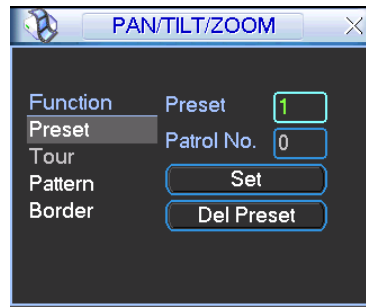
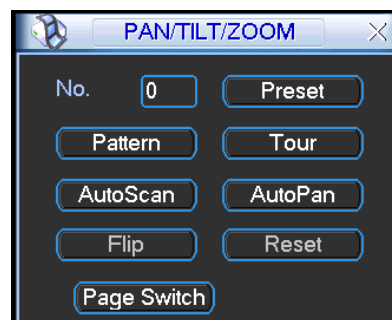
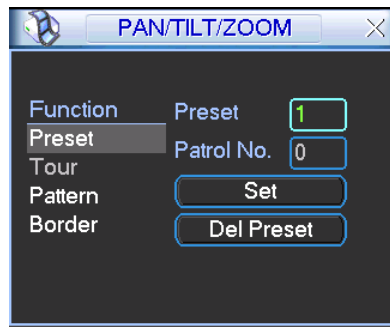

Figure 4-39
Figure 4-40
Figure 4-41
In Figure 4-36, please click the “set” button. The interface is shown as below. See Figure 4-39. Here you can set the following items:
In Figure 4-36, click page switch button, the interface is shown as in Figure 4-40.
- The following setups are usually operated in the Figure 4-36, Figure 4-39 and Figure 4-40.
In Figure 4-39, click preset button and input preset number. The interface is shown as in Figure 4-41.
In Figure 4-40, please input preset number in the No. blank, and click preset button.
In Figure 4-39, input patrol (tour) number in the No. blank and click patrol button
In Figure 4-39, click pattern button and then click "begin" button. The interface is shown as in Figure 4-43. Then you can go to Figure 4-36 X to modify zoom, focus, and iris.
In Figure 4-39, input mode value in the No. blank, and click pattern button.
In Figure 4-40, click "Auto Scan" button, the system begins auto scan. Correspondingly, the auto scan button becomes Stop button. Click stop button to terminate scan operation.
In Figure 4-40, click page switch button, you can see an interface is shown as below. See Figure 4-45. Here you can set auxiliary function. The aux value has relation ship with the Aux button of the decoder.